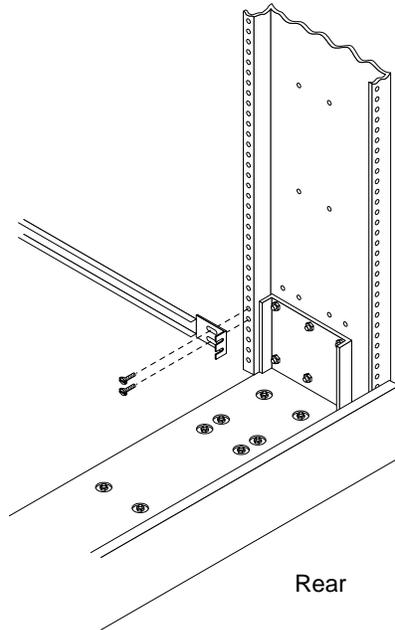

FIGURE 4-7 Securing the Bent Bracket to the Cabinet
6. Standing at the rear of the cabinet, position the bracket of one slide rail over the proper hole positions (FIGURE 4-7).
7. Loosely secure the bent bracket to the cabinet using a Phillips screwdriver and two 10-32 screws (FIGURE 4-7).